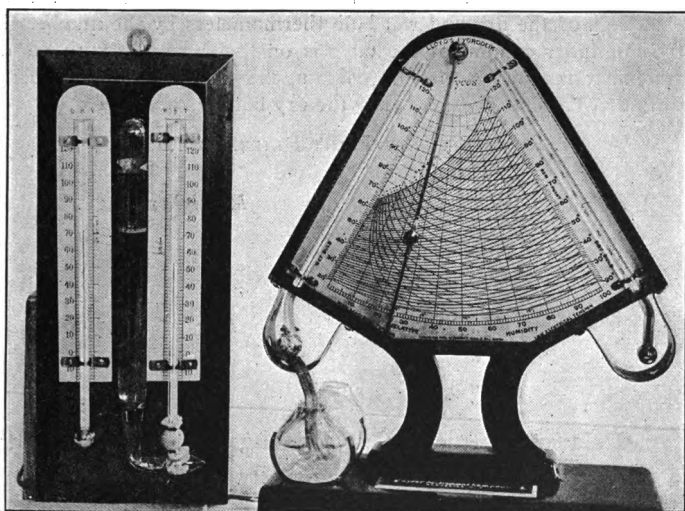

FIG. 23
**67. How the Dew Point May Be Found.** Let us take a highly polished narrow metal cup (Fig. 23) half full of water. If we now lower the temperature of this by adding pieces of ice and stirring with a thermometer, a mist will appear on the outside shiny surface, if the quantity of water vapor in the surrounding air is not too small. The temperature at which this mist begins to form is the dew point, as it is an indication of the temperature at which the air next the cold metal becomes saturated. Sometimes it may be necessary to lower the temperature further by using salt and ice if the dew point happens to be very low.